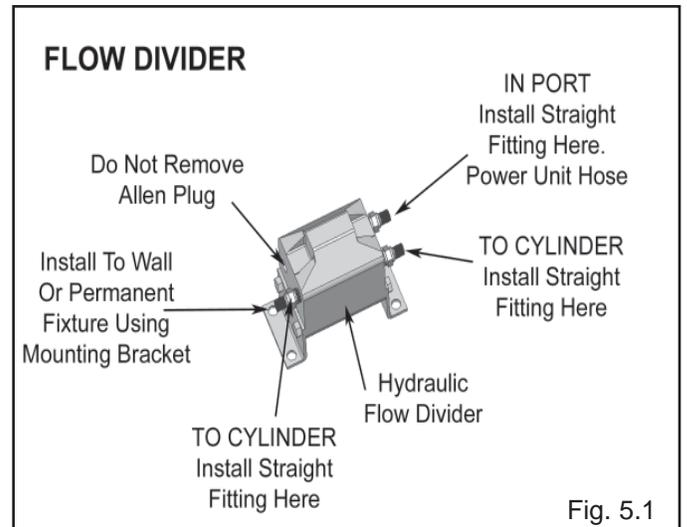

Fig. 5.1
1. Secure the Hydraulic Flow Divider to a permanent wall or fixture (usually below grade) in an area that will allow the Power Hoses (the two hoses that are installed at the lift Cylinders) to be equal length. (See Fig 5.1)
4. Connect the other end of the Power Unit Hose to the fitting marked "IN" on the Flow Divider. (See Fig 5.1)
5. Connect the two remaining equal length Hoses to the Flow Divider. (See Fig 5.1)